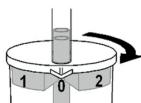

Abb. 2
3. For normal suction, turn the vessel until the arrow on the lid points to an open position ("0") (**Fig. 2**)